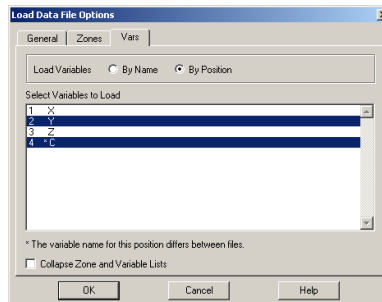

Figure 5-6. The Load Variables by Position section of the Load Data File Options dialog.
5.1.1.6. Variable Loading by Position. The Load Variables By Position area of the Load Data File Options dialog's Vars page allows you to select specific variables to load from data files, and to collapse the zone and variable lists when possible. The Loading Variables by Position section of the dialog is shown in Figure 5-6.